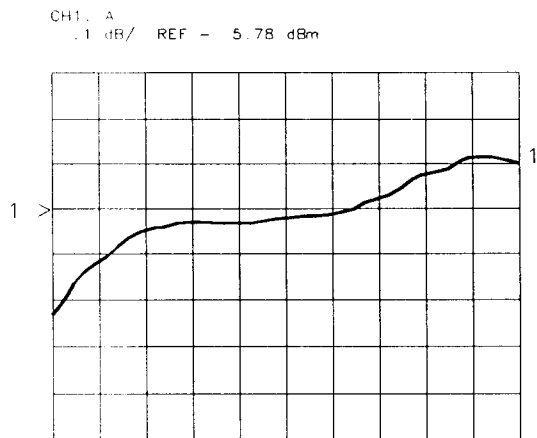

Figure 4-38.
12. Repeat the adjustment sequence in step 8 for maximum amplitude and gain. Skew the bandpass response slightly so that the roll-off is steeper on the low frequency side as illustrated in Figure 4-38. Verify that the passband response meets the following conditions: $\leq +0.2$ dB and ≥ -0.4 dB at ± 2.5 MHz from the center of the network